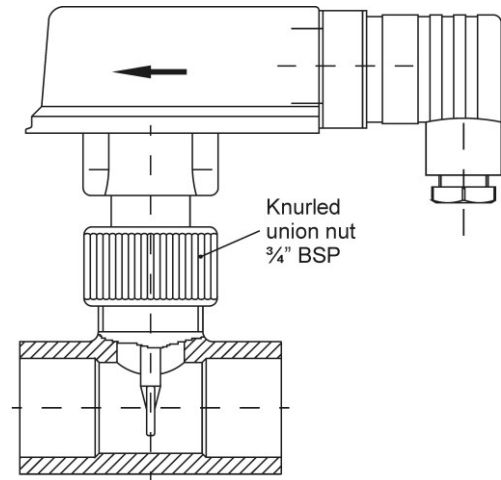

Fig. 6
- ↪ With version ...KU seal the PVC tube section (Fig. 6) in the pipe using suitable adhesive joints.